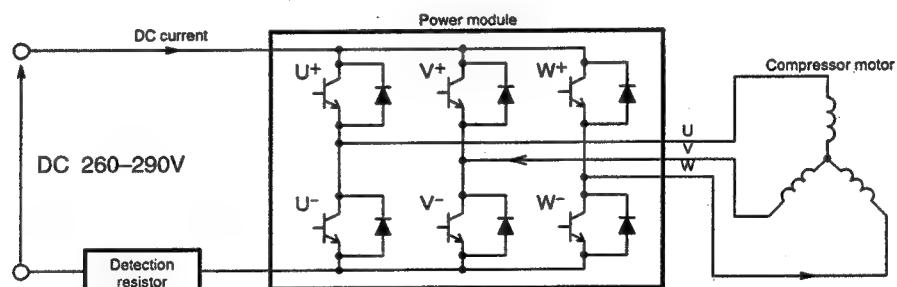

Fig. 8-9
- (1) Turns on the power module's U⁺ and V⁺ transistors so the current flows to the motor windings as shown in Fig. 8-9.